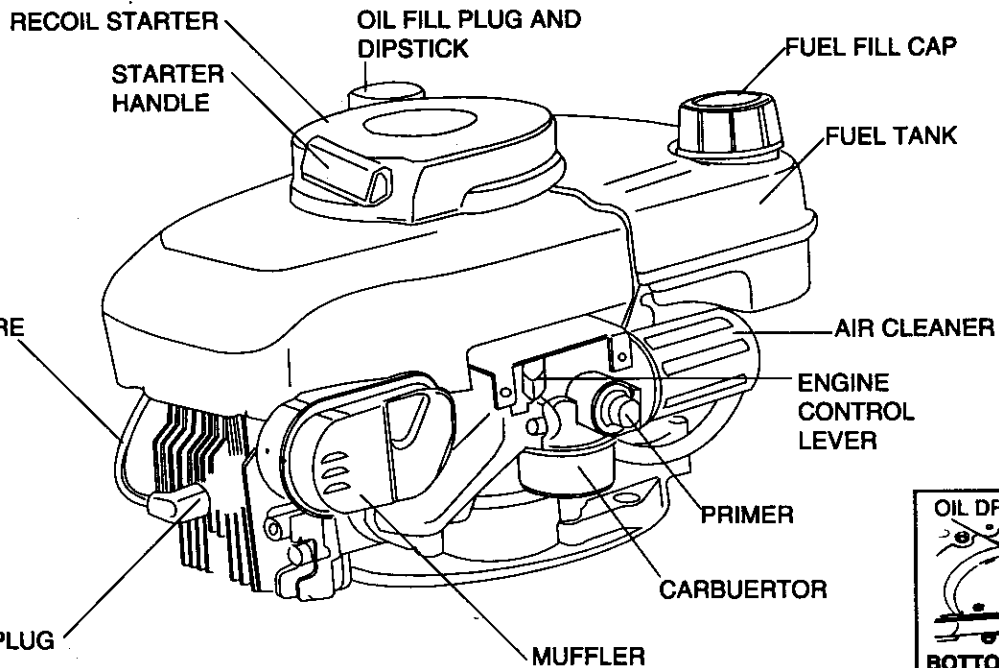

Figure 1
- B. Clean area around oil fill plug (see Figure 1).
⑤ CHECK THE FOLLOWING:
B. Be sure spark plug wire is attached to spark plug (see Figure 1).
① Move engine control (see Figure 1) to HI Position.
② START ENGINE:
ENGINE SPEED: Engine speed is controlled by the engine control (see Figure 1). Engine control should be in HI position for high grass conditions and for most efficient bagging in heavy grass conditions, and in LOW position for light grass, trimming and for fuel economy.
C. Remove oil drain plug and oil fill plug to drain oil (see Figure 1).